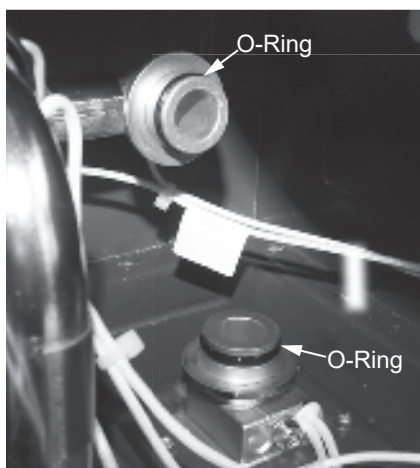

Figure 219 - Locating the O-rings
19 Locate the two (2) O-rings on the exposed water pipe connections as shown in Figure 6 and remove them and install the new O-rings. Dispose of the old O-rings properly. See Figure 219.
Figure 6 and remove them and install the new O-rings. Dispose of the old O-rings properly. See Figure 219.